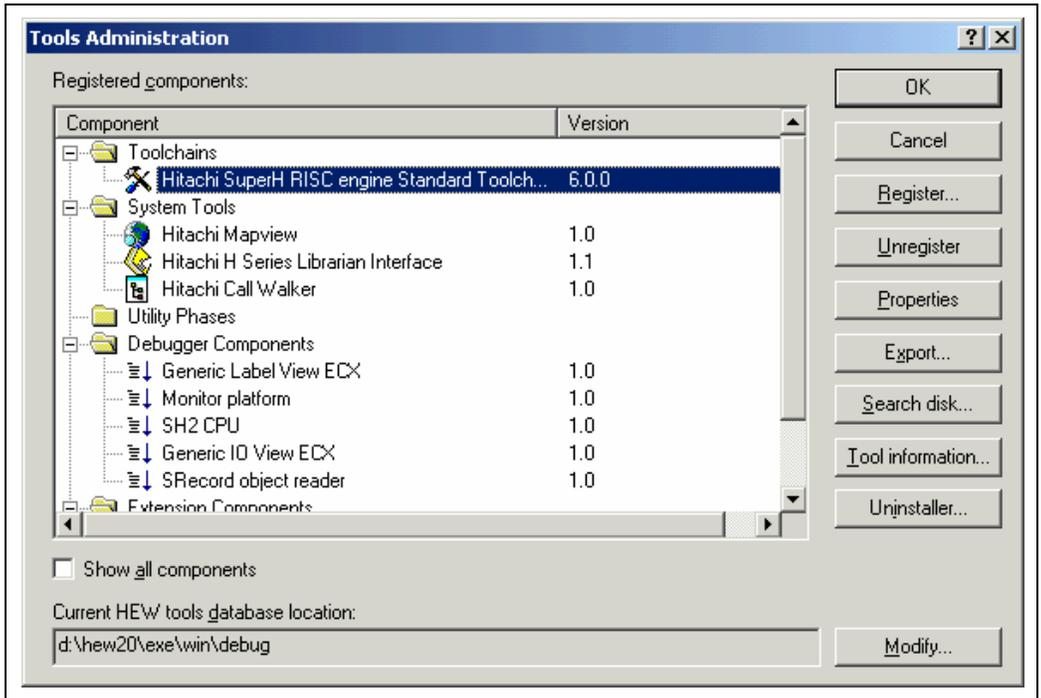
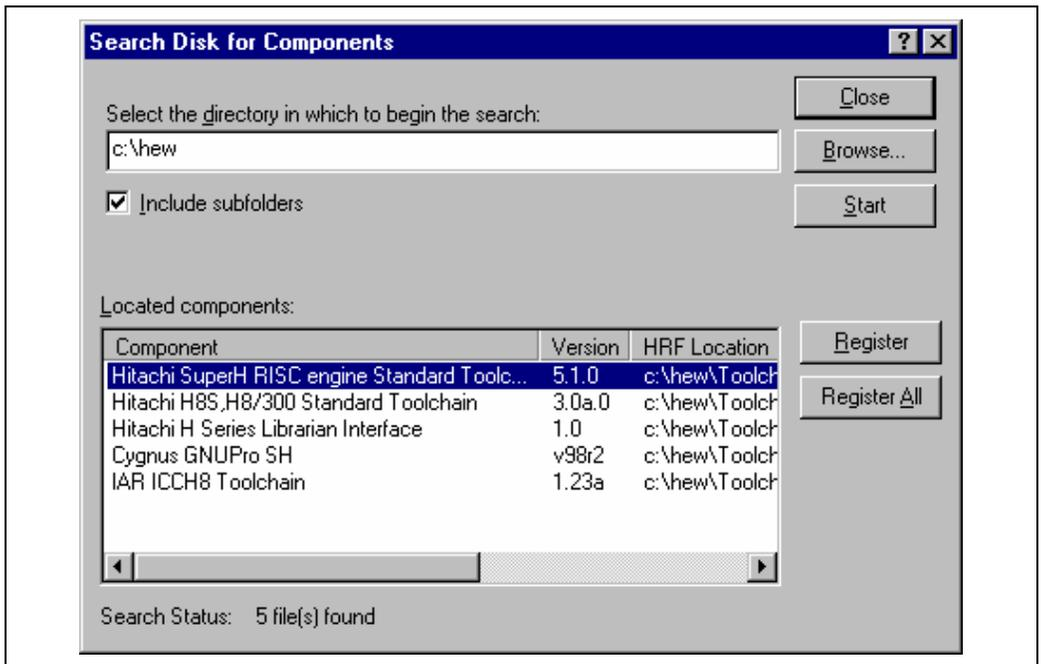

Figure 5.1: Tools Administration Dialog (Example)
Figure 5.3: Search Disk for Components Dialog
You control the components, which can be used by the High-performance Embedded Workshop via the “Tools Administration” dialog (figure 5.1), which is invoked via [**Tools->Administration...**]. Modification of the “Tools Administration” dialog box is only possible when no workspace is open, while only reference is possible when a workspace is open.
In order to use a component with HEW it must first be registered. The “Tools Administration” dialog (figure 5.1) shows all currently registered components. To access it, ensure no workspaces are open and then select **[Tools ->Administration...]**. If you attempt to access tools administration when there is a workspace open the tools administration dialog is opened but cannot be modified. When HEW is installed by default any new tools are automatically registered.
1. Click the “Search Disk...” button on the “Tools Administration” dialog (figure 5.1). The “Search Disk for Components” dialog will be displayed (figure 5.3).